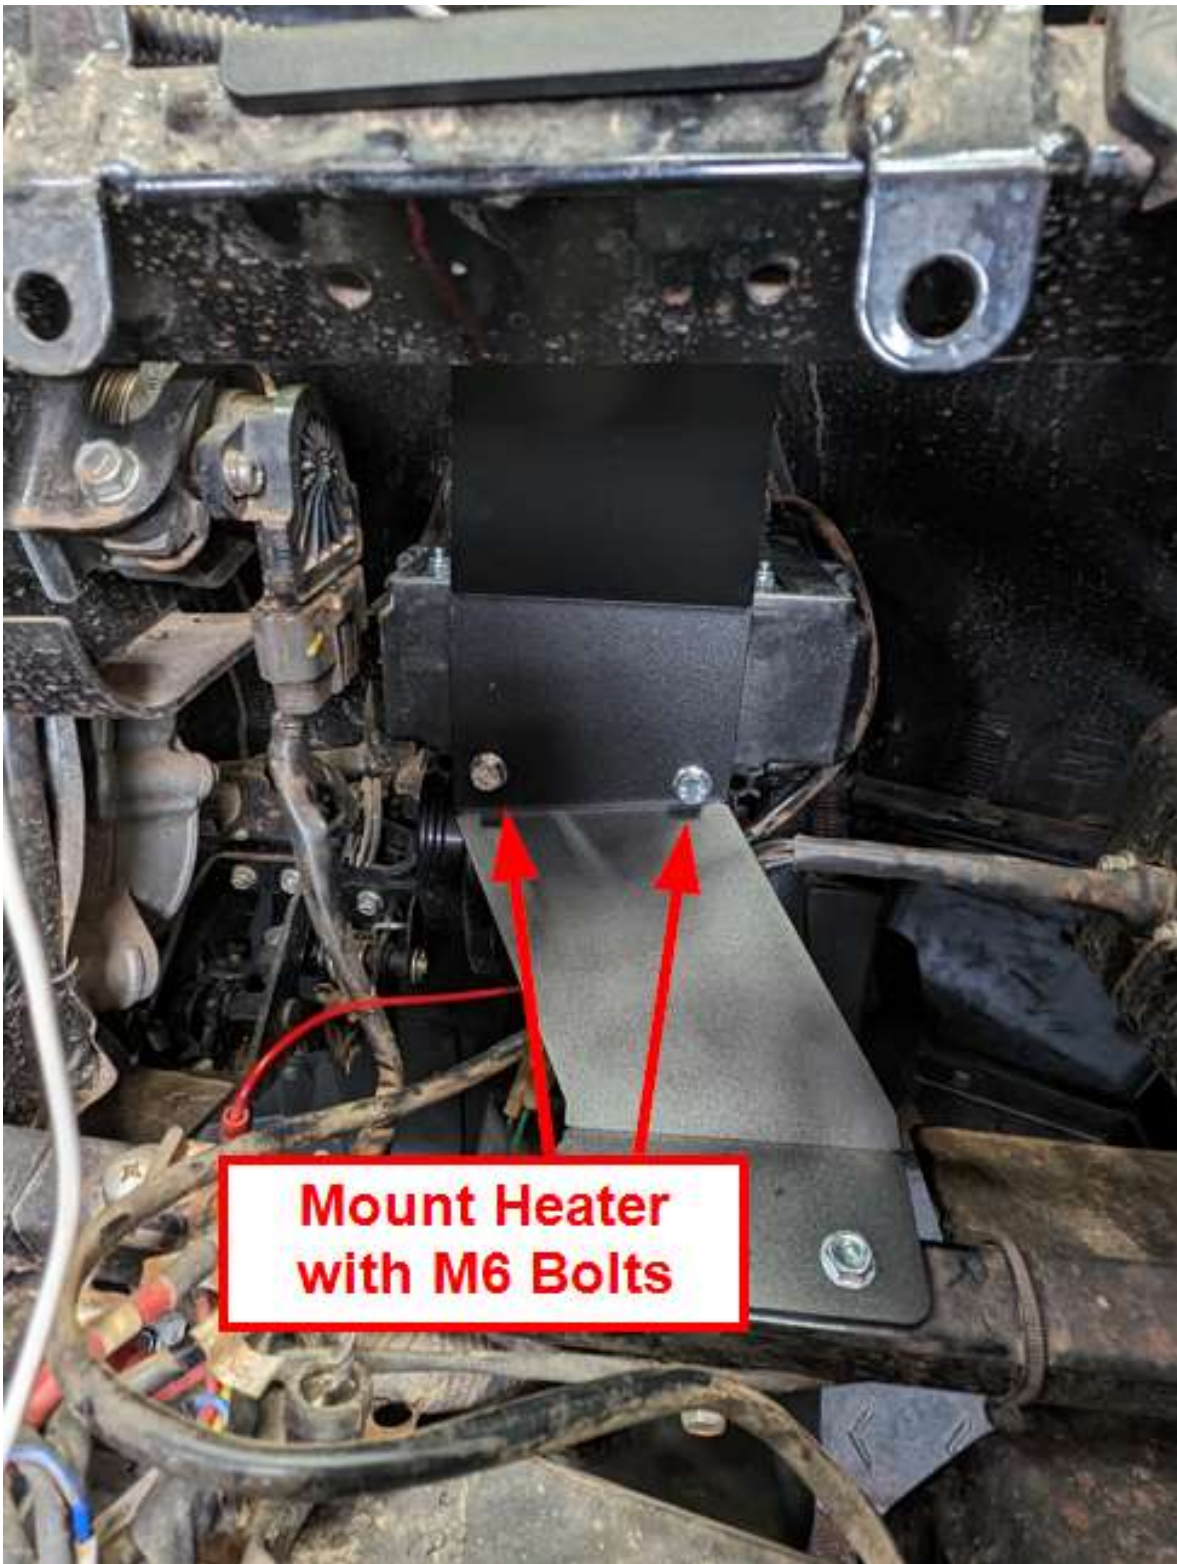

Figure 15
- d. Use the M6x12mm Bolts to mount the Heater to the Bracket. Ensure the Copper ports are located on the Passenger Side as shown in Figure 15.